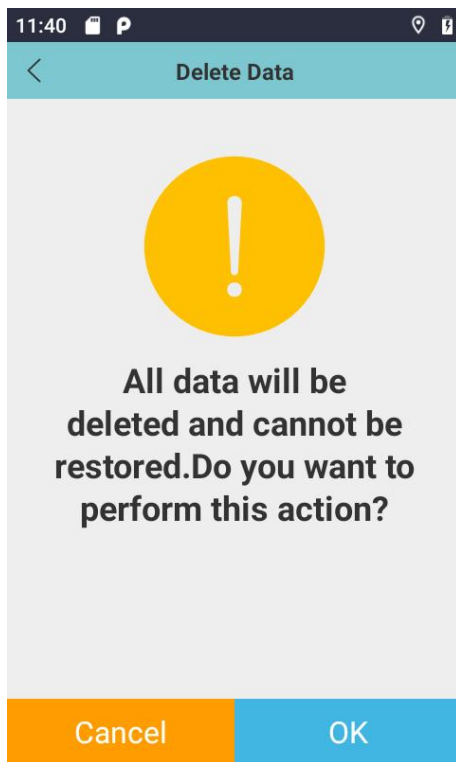

Figure 6.116
- 3) Delete Data: Tap "Delete Data" to access the data deletion interface (see Figure 6.116). A confirmation prompt will appear: "All measurement data will be permanently deleted and cannot be recovered. Are you sure you want to proceed?". Tap "Confirm" to delete all measurement records.